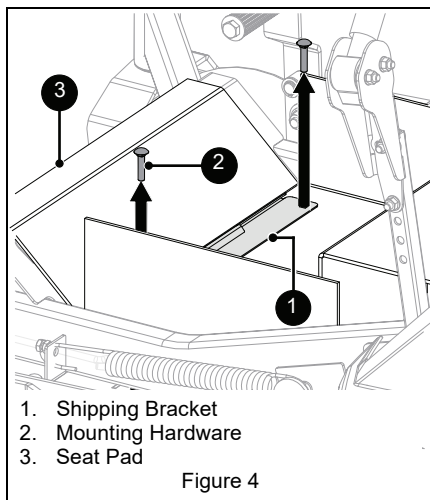

Figure 4
4. Remove mounting hardware securing shipping bracket and seat pad to unit. Discard all parts. See Figure 4.